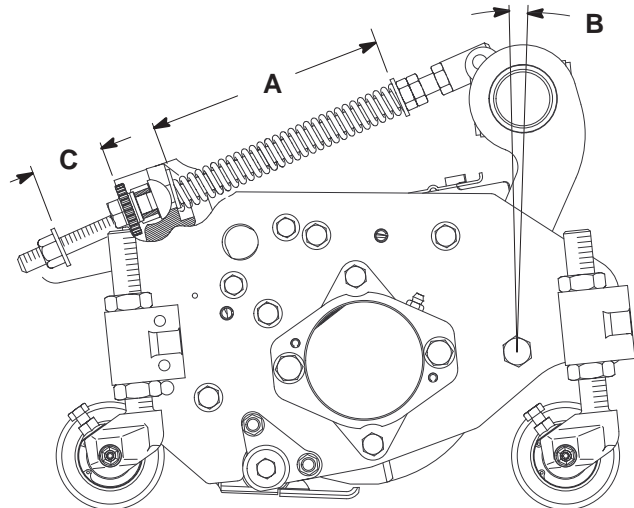

Figure 11
The Turf Compensation Spring (Fig. 11), connecting carrier frame to cutting unit, controls the amount of fore-aft rotation available, as well as the amount of ground clearance in transport and turn around.
1. Tighten lock nut on rear of spring rod until the gap **C** between rear of spring bracket and front of washer is 1 inch (26 mm) (Fig. 11).
2. Tighten hex nuts on front end of spring rod until the compressed length **A** of spring is 8 inches (203 mm) (Fig. 11).
Note: When cutting rough or undulating turf, increase compressed length **A** of the spring to 8-1/2 inch (216 mm) and gap **C** between rear of spring bracket and front of washer to 1-1/2 inches (39 mm) (Fig. 11).